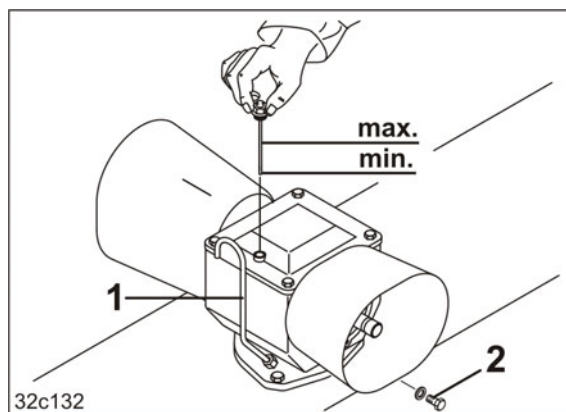

Fig. 177
The gearbox is equipped with a vent pipe (Fig. 177/1).
3. Unscrew the oil drain screw (Fig. 177/2).